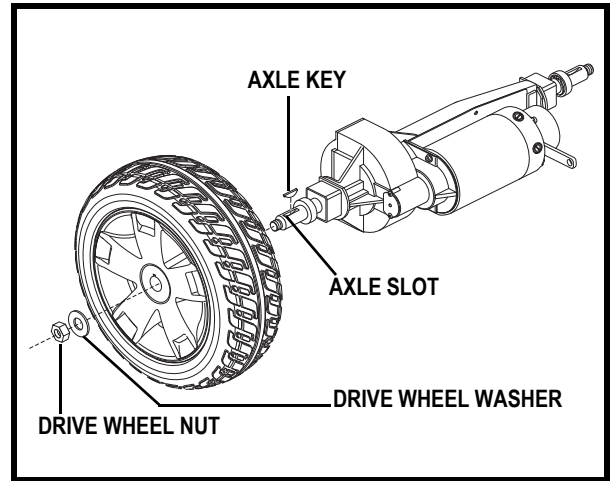

Figure 26. Drive Wheel Removal
3. Remove the drive wheel nut and washer from the axle. See figure 26.
5. Slide the new wheel back onto the axle. Make sure that the axle key is in the axle slot. See figure 26.